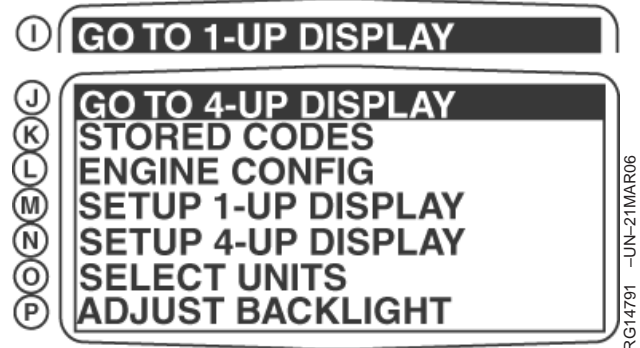

Figure 3. Main Menu, Select Go To 1 or 4-Up Display
- Press the menu key (E). Main Menu (fig. 3) is displayed.
- If "GO TO 4-UP DISPLAY" item is not highlighted, press scroll-up arrow key (F), until it is highlighted (J), as shown in figure 3.